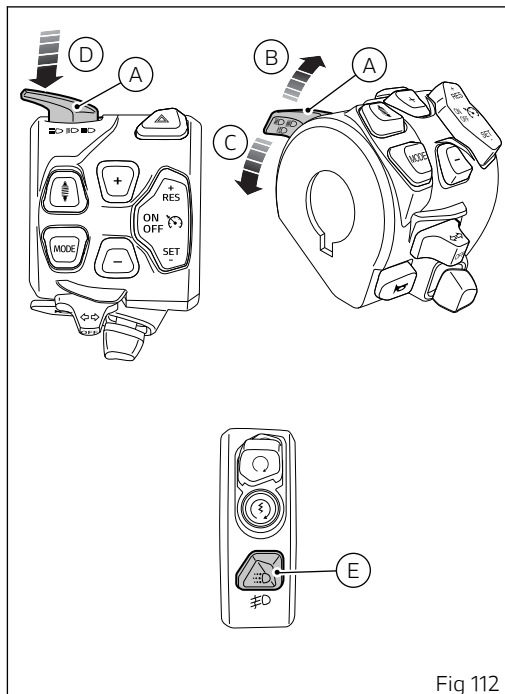

Fig 112
When the DRL is set to "Auto" mode, the corresponding warning light will turn on. If the DRL was set to "Auto" mode, press button (E, Fig 112) to disable that mode and set manual light management. Press again button (E, Fig 112) to re-enable DRL but with control strategy set to "Manual".
If the DRL lights are in this mode, as set through the "DRL" function within the "Setting menu" (page 275) DRL lights will not change their status upon key-on. To switch on or off the DRL lights, it is necessary to press button (E, Fig 112).
- if DRL lights are present, press and hold button (E, Fig 112) for a long time;
- if DRL lights are not present, press button (E, Fig 112).